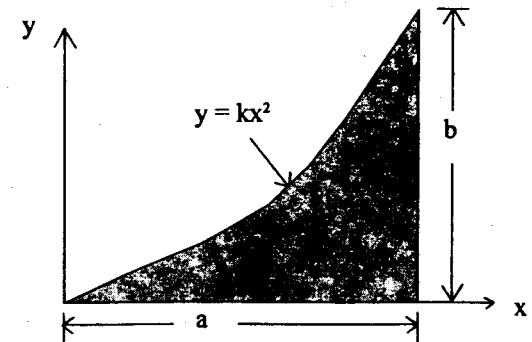

Fig. 10
- (c) Determine the moment of Inertia of the shaded area with respect to x and y axis. Fig. 10